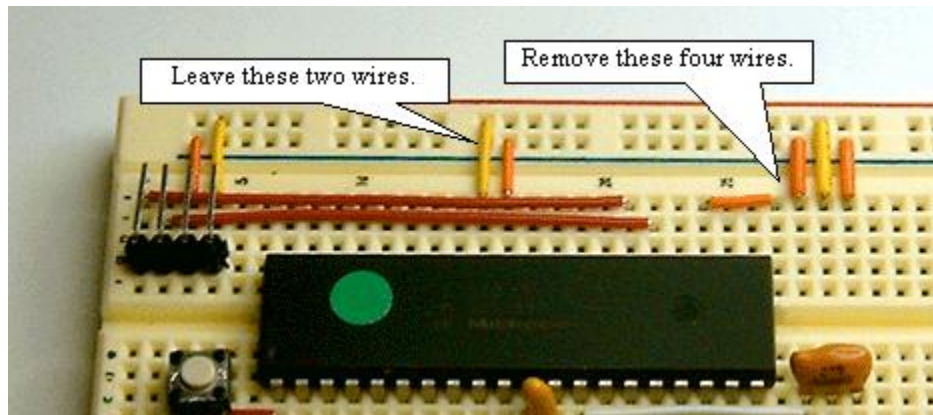

Figure 3. Removing the jump wires under the LCD.
2. Remove the orange wires connecting holes J28 and J30 to ground, the orange wire connecting hole J24 to hole J27, and the yellow wire connecting hole J29 to power, as shown in Figure 3.